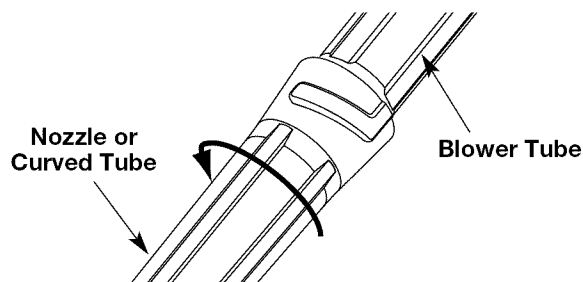

Fig. 6
2. Grasp the nozzle and twist it counterclockwise until the nozzle unlocks from the blower tube (Fig. 6).